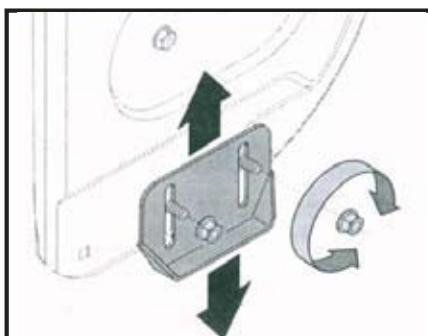

FIG. 14
- The space between the shave plate and the ground can be adjusted. See Figure 14.
- To remove the shave plate remove the carriage bolts and flange lock nuts which attach the shave plate to the snowblower housing. See figure 14.